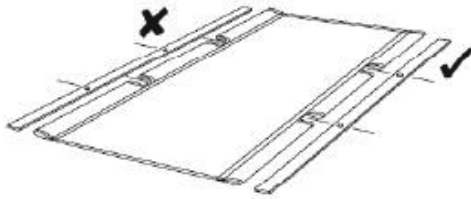

Fig. 11
5. Insert the two splints into the side pockets - one either side of the Canvas Stretcher, ensuring the splints are orientated correctly. This will be confirmed when the two suspension spigots on each splint protrude through the two openings on either side of the Canvas Stretcher. Ensure the suspension spigots face outwards. (see Fig. 11).